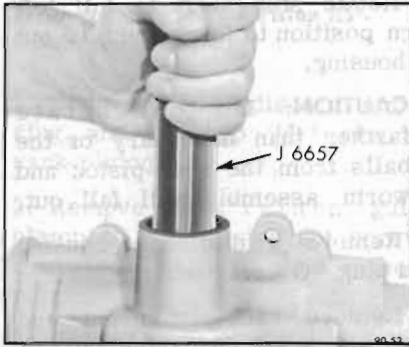

Figure 90-47—Removing Pitman Shaft Needle Bearing
2. Check the pitman shaft needle bearing for wear, pitting, or scoring. If damaged, remove needle bearing from gear housing bore by driving from the seal bore side of housing using Tool J-6657. See Figure 90-47. Discard bearing.